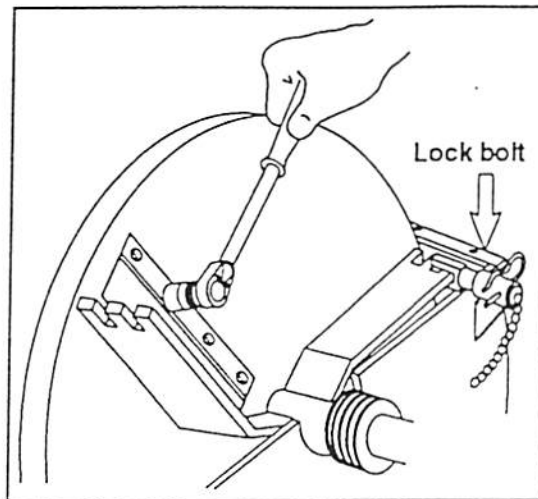

Fig.10.
- Lock the disk with the lock bolt. See fig.10.
- Lock the disk with lock bolt. See fig10.
1. Lock the disk with lock bolt. Remove the four locknuts behind the knife frame (socket size  $\frac{11}{16}$ " or 17mm). See fig.10.